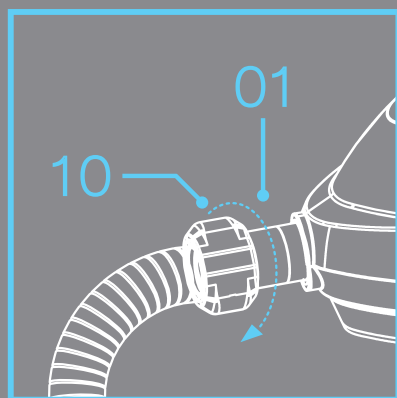

Figure 1.
- Connect the **flexible conduit adaptor (10)** to the **inflation inlet (1)** and twist clockwise to tighten the connection (**Figure 1**).